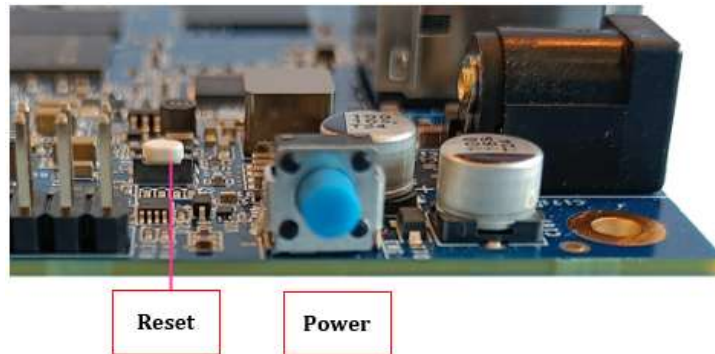

Figure 4. Power and reset buttons in the Hailo-15L SBC
1. Power off the Hailo-15L SBC. See Figure 4
5. Using the buttons displayed in Figure 4, power-on the Hailo-15L SBC.